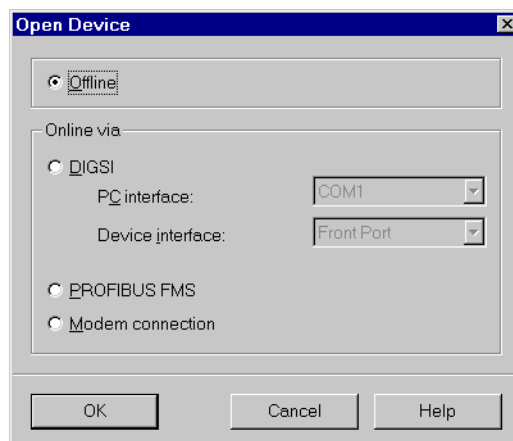

Figure 9-5 DIGSI® 4, dialogue field **Open Device**
- ❑ Double click on this item. The **Open Device** dialogue box opens, as shown in Figure 9-5.